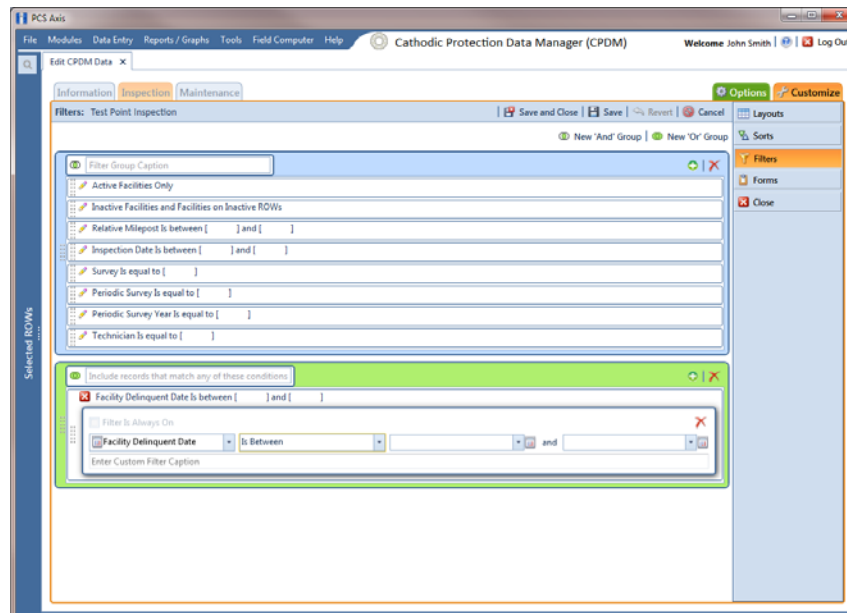

Figure 7-92. Filters
- 5 Click  **New 'Or' Group** to open a filter properties group box (Figure 7-92, page 306).
- 8 If the OR filter group includes a date filter, such as *Facility Delinquent Date Is Between* shown in Figure 7-92 (page 306), set a date range using a calendar or dynamic dates in the following manner: